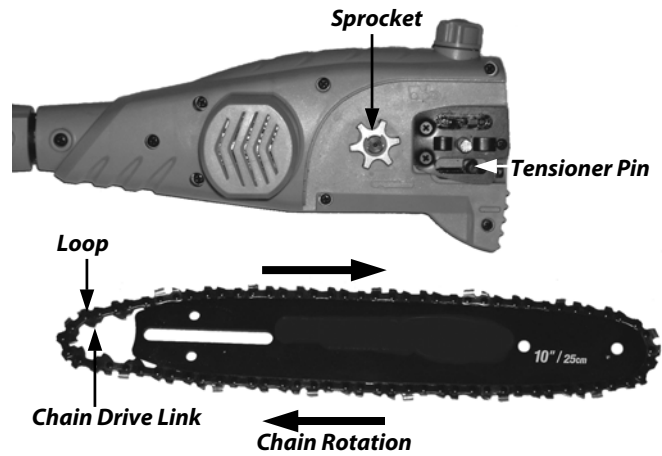
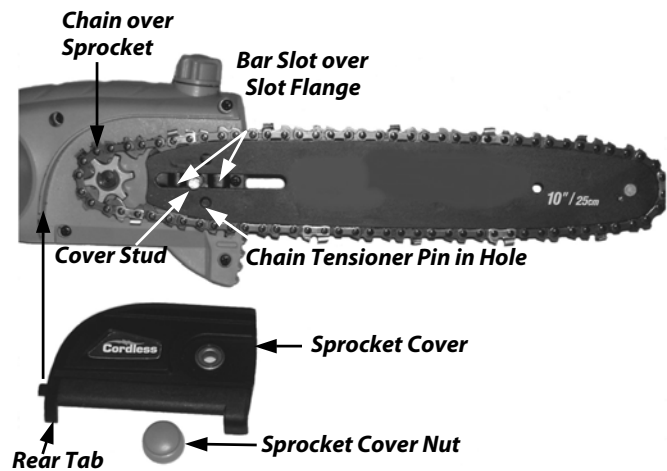
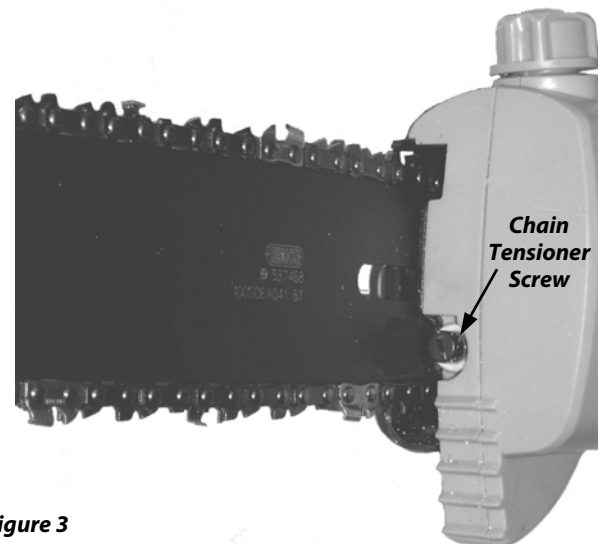

Figure 1
Figure 2
Figure 3
1. Unscrew the Sprocket Cover Nut by hand and remove the Cover (**Figure 2**).
2. Lay out the Saw Chain in a loop and straighten any kinks. The sharp side of the Teeth should face in the direction of the Chain rotation (**Figure 1**). If they face backwards, turn the loop over.
3. Place the Chain Drive Links into the Bar groove (**Figure 1**).
4. Position the Chain so there is a loop at the back of the Bar (**Figure 1**). Hold the Chain in position on the Bar and place the loop around the Sprocket (**Figure 2**).
NOTE: When placing the Bar on the Flange, ensure that the Tensioner Pin is in the Chain Tensioner Pin Hole in the Bar (**Figure 2**). Adjust the Chain Tensioner Pin as needed by adjusting the Chain Tensioner with a Flat Tip Screwdriver (**Figure 3**).
6. Tighten the Chain Tensioner Screw (**Figure 3**) only enough to hold the Bar and Chain in place ensuring the Chain is still in place over the Sprocket (**Figure 2**).
7. Install the Sprocket Cover by inserting the Rear Tab first and positioning the Cover onto the Sprocket Cover Stud (**Figure 2**).
9. Remove all slack from the Chain by turning the Chain Tensioner Screw (**Figure 3**) clockwise until the Chain seats snugly against the Bar with the Drive Links in the Bar groove. For more information on Chain tensioning, see Chapter 4 "Maintaining Your NEUTON Battery-Powered Pole Saw".